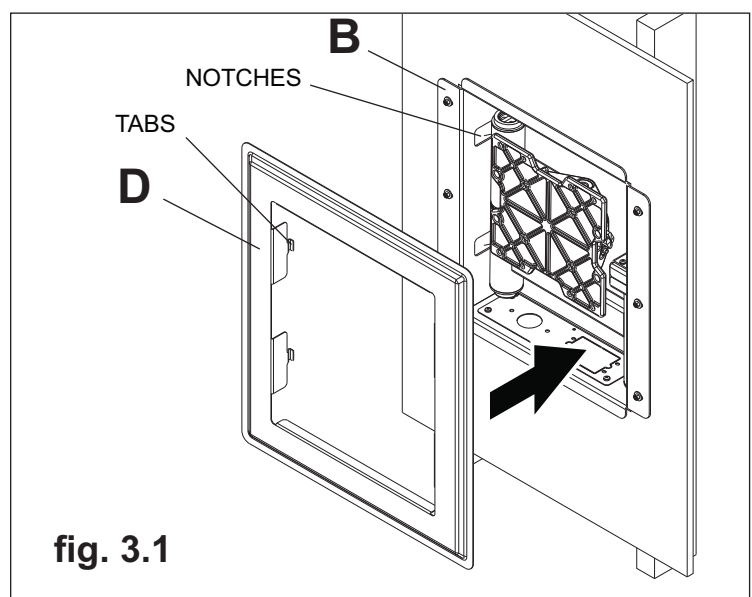

fig. 3.1
- 3** Insert tabs of outer trim (D) into notches of in-wall box (B) as shown in figure 3.1.